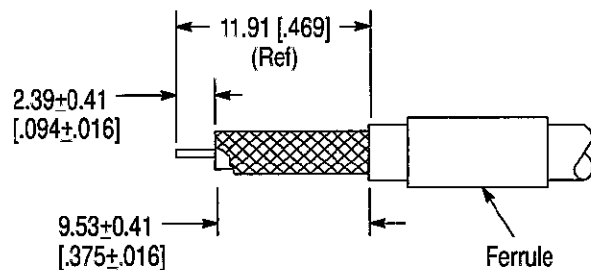

Figure 2
- Slide ferrule onto unstripped cable; then strip cable using the appropriate dimensions provided in Figure 2. Do NOT nick or cut cable braid. Center conductor must be straight and free of burrs.